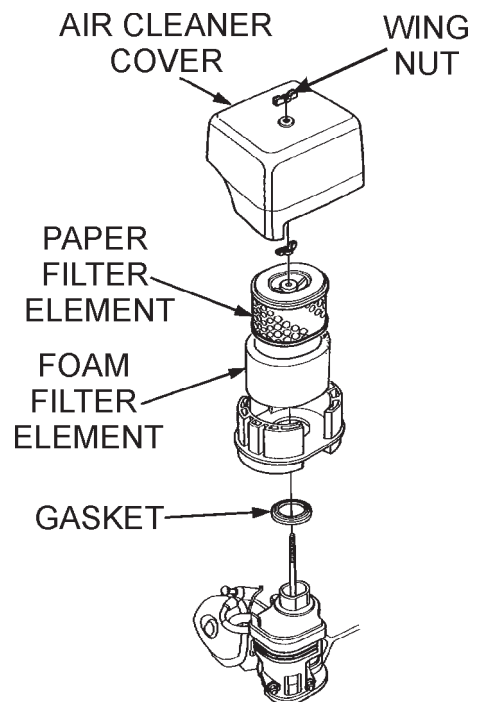

Figure 30. Engine Air Cleaner
2. Tap the paper filter element (Figure 30) several times on a hard surface to remove dirt, or blow compressed air [not exceeding 30 psi (207 kPa, 2.1 kgf/cm2)] through the filter element from the air cleaner case side. **NEVER** brush off dirt. Brushing will force dirt into the fibers. Replace the paper filter element if it is excessively dirty.